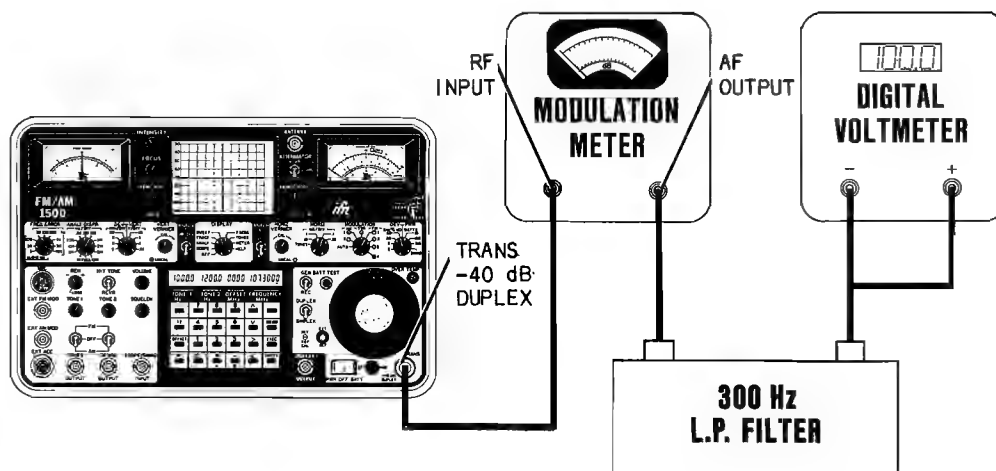

Figure 4-3 Residual FM Test Hookup
15. Connect Modulation Meter, 300 Hz Low-pass Filter and Digital Voltmeter to FM/AM-1500 as shown in Figure 4-3. Set Modulation Meter filters to 30 Hz High-pass and 3 kHz Low-pass.